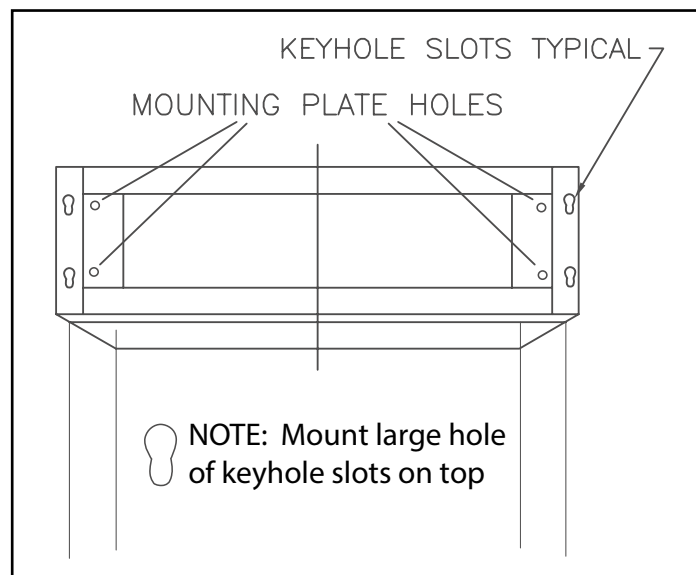

FIGURE 3 - Wall Mounting Plate, Wall Marking
2. Position and center the mounting plate over the door opening with the larger opening of the key hole slots facing up. **See Figure 3.**